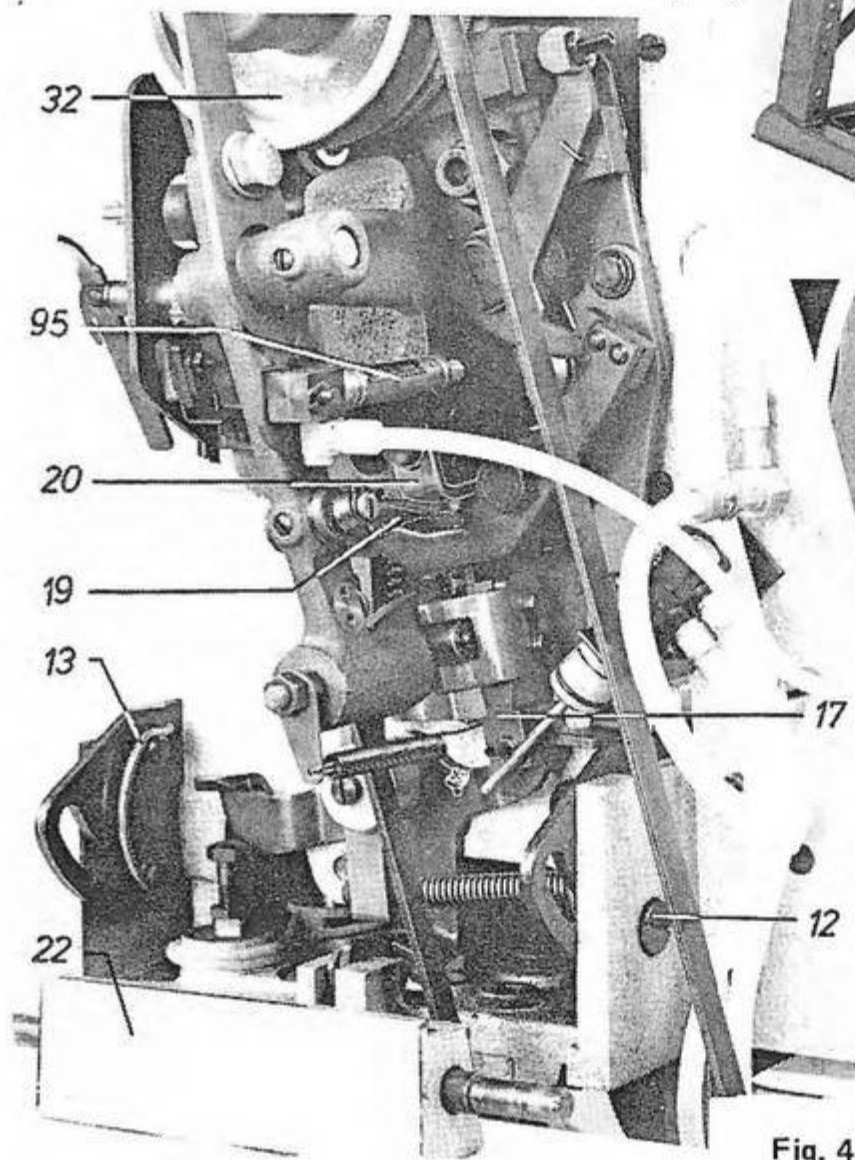
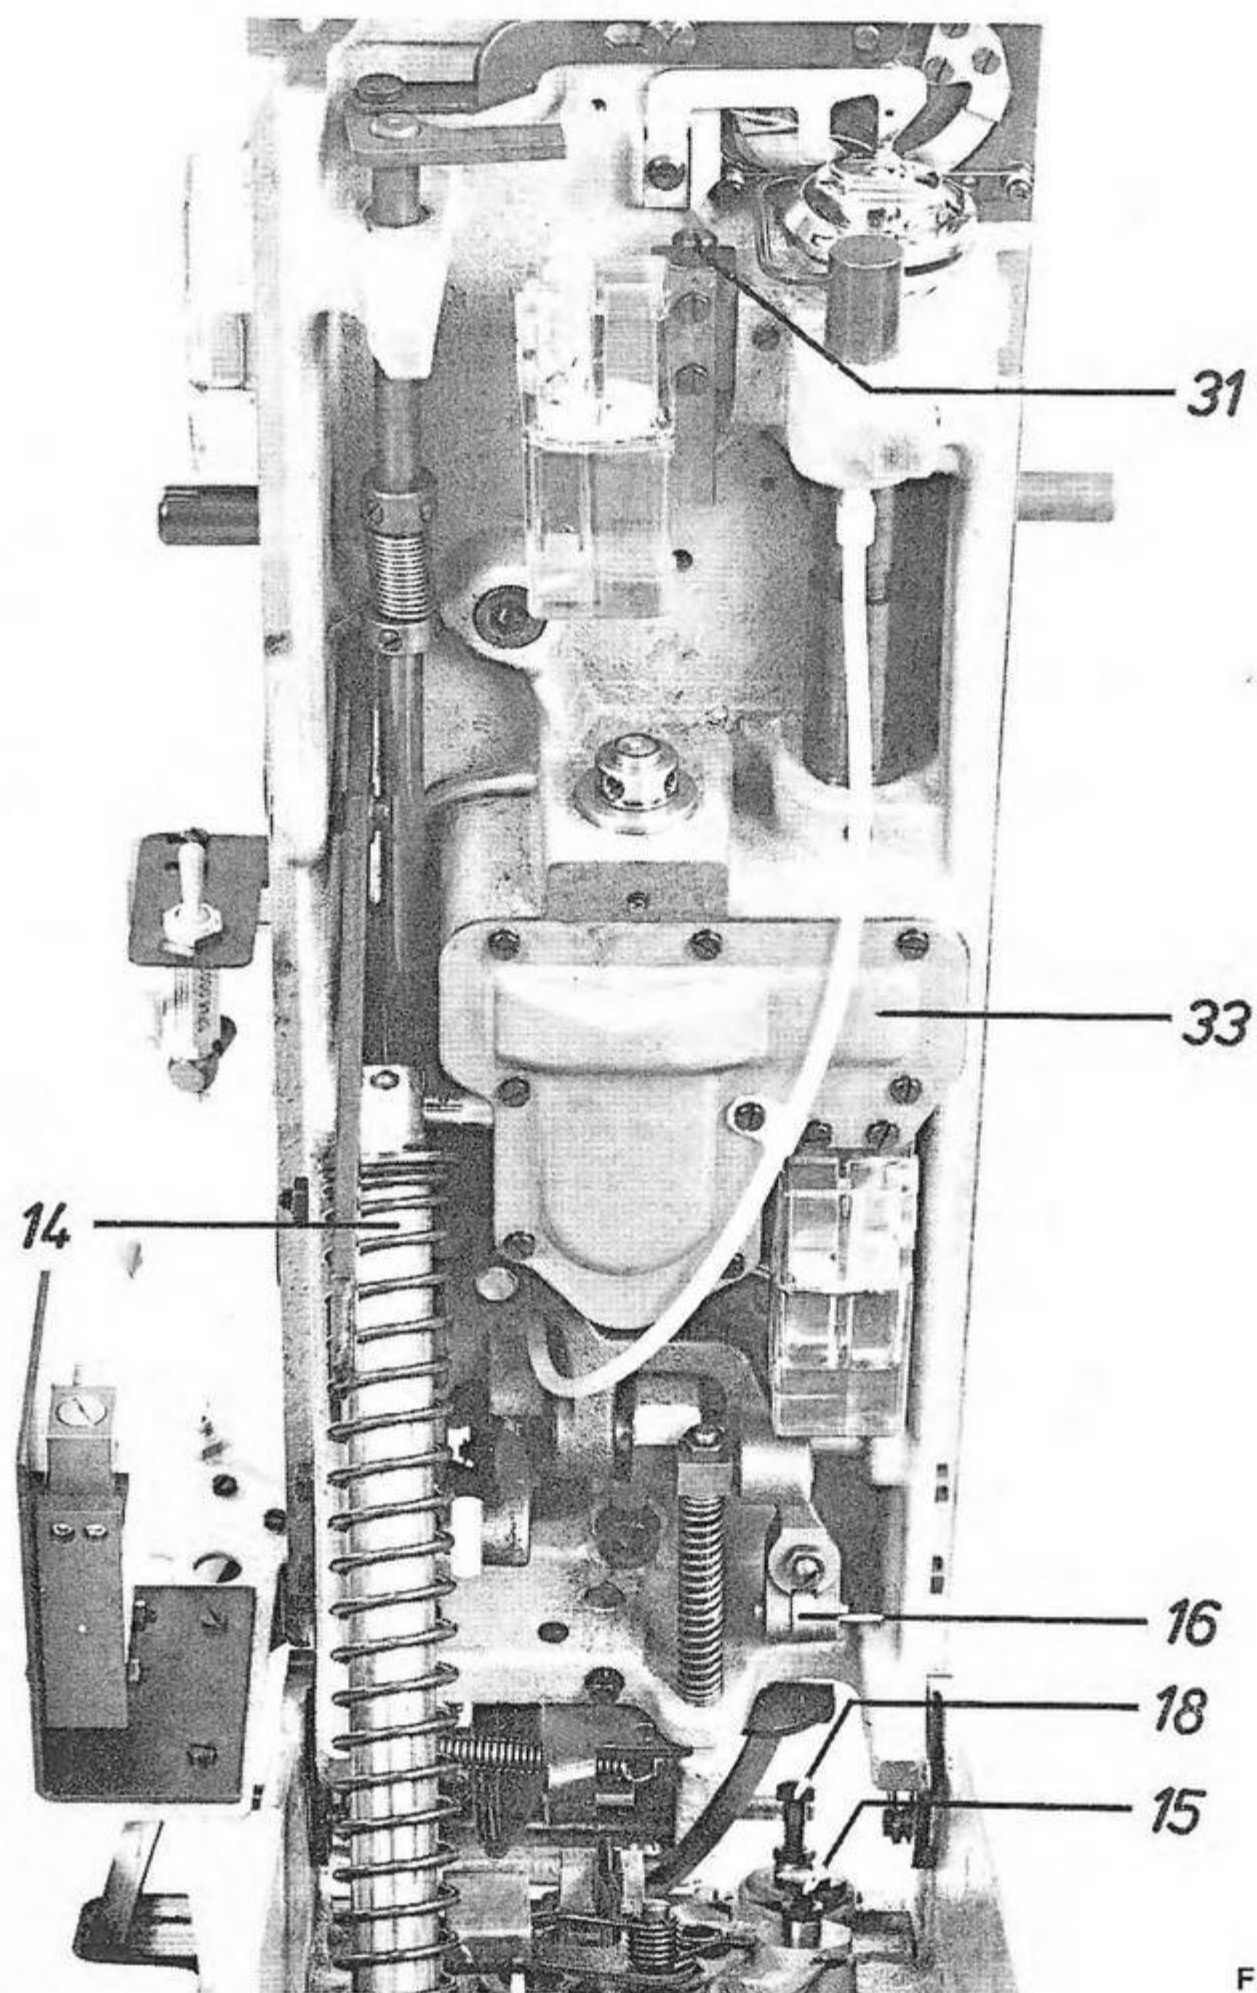
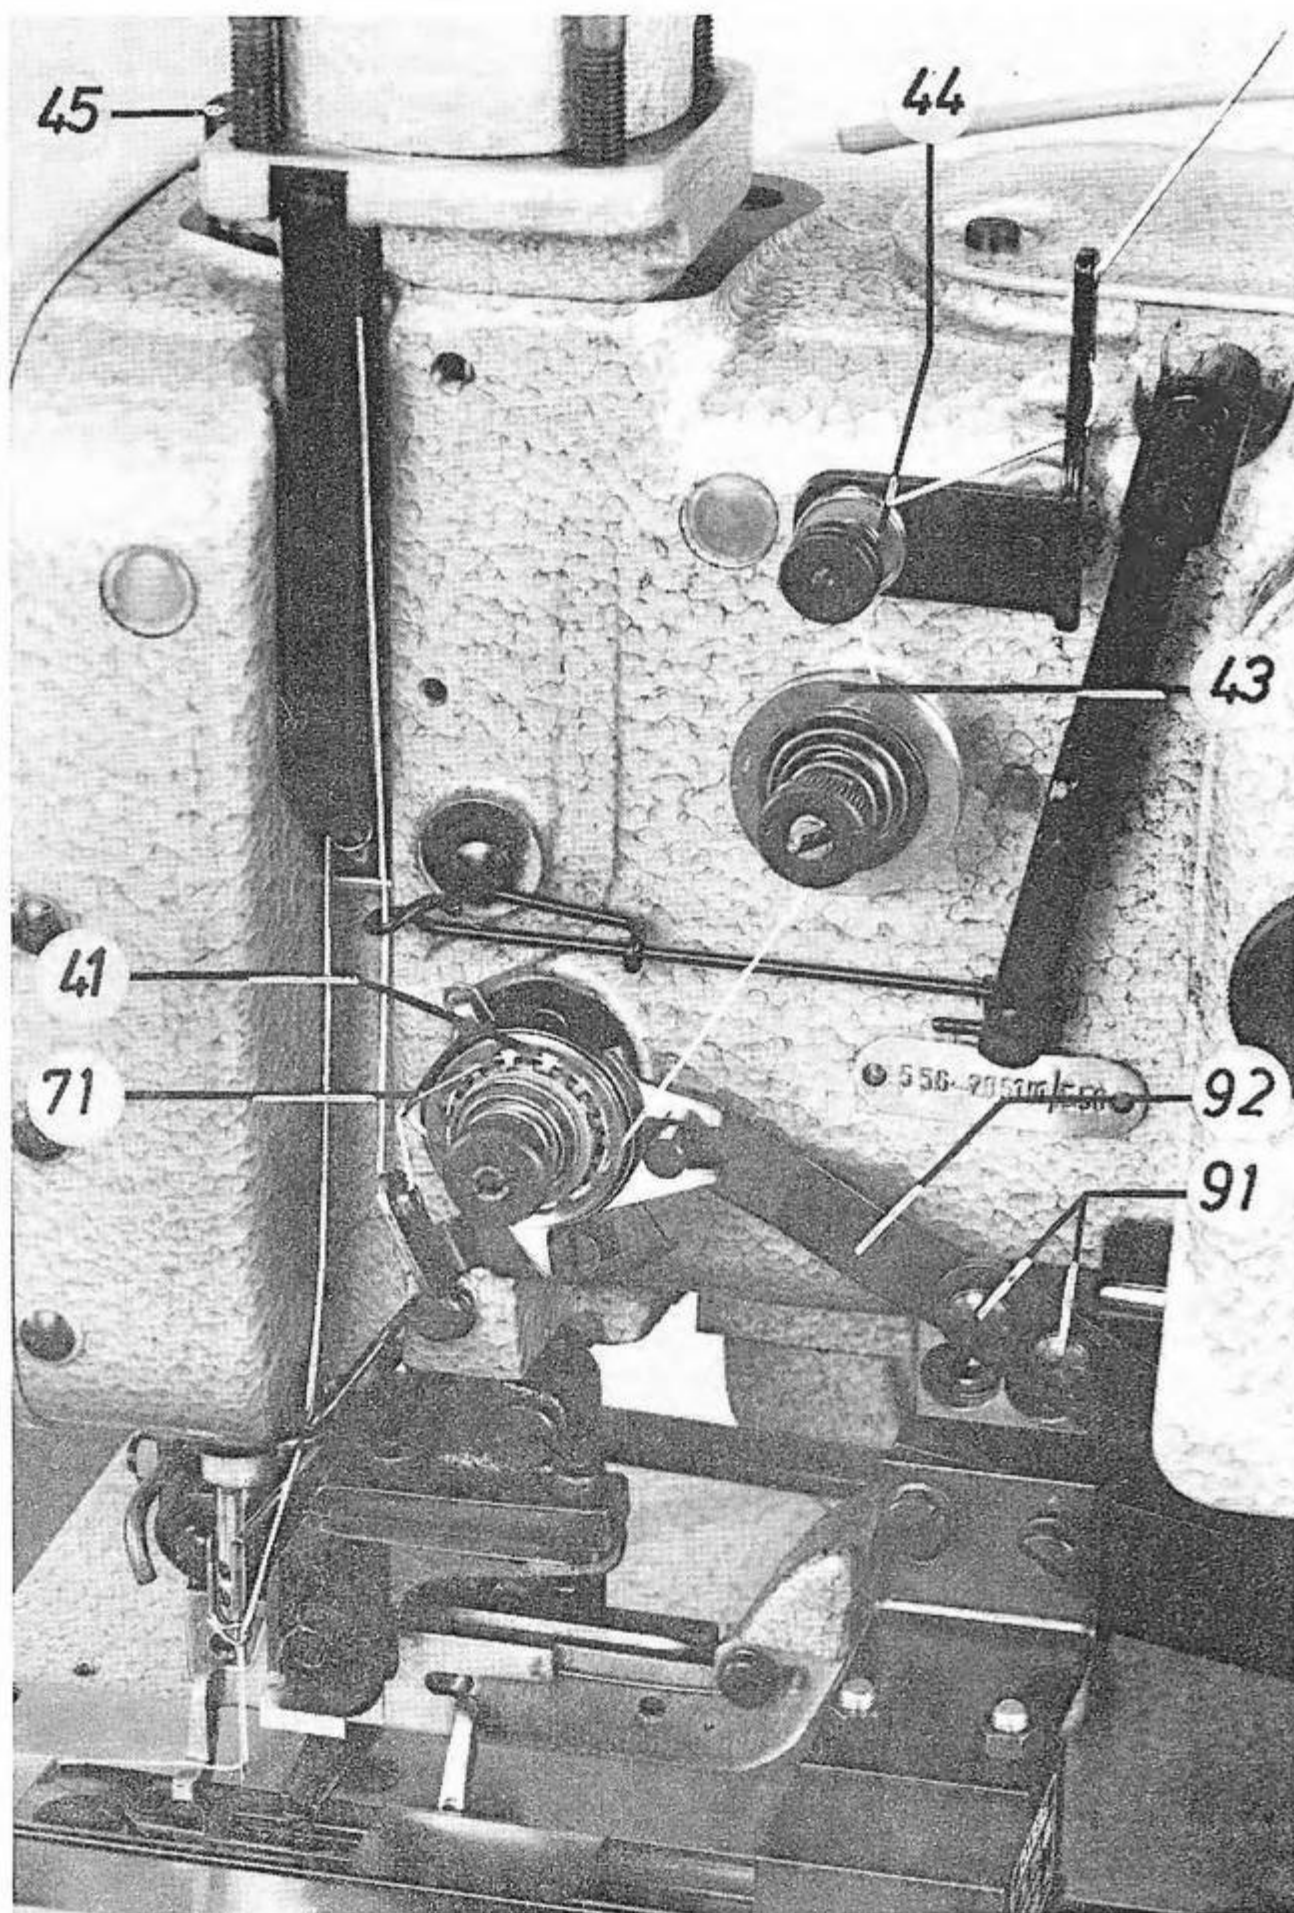

Fig. 4
Fig. 5
Fig. 7
14. Place machine head in the base and secure by safety screws 12 (fig. 4) and safety springs 13.
16. Set the lifter 15 (fig. 5) so that the gap between the roller 16 and the non-operated lifter 15 amounts to about 0.5 mm.
17. The stroke of the brake tappet 17 (fig. 4) is determined by the engagement tappet 18 (fig. 5). With the main switch being turned on and with the r/h pedal being fully lowered set the tappet 18 so that the ratchet 19 (fig. 7) is pulled some 0.5 mm below the square 20 and that the machine is engaged.
24. Fasten the bearing block 22 (fig. 4) on the table top so that the cover hood 23 (fig. 11) adapts itself to the machine head.
The oil supply to the hook can be regulated by the screw 31 (fig. 5).
Furthermore, after about one-year service, wash the needle and the ball bearing of the belt pulley 32 (fig. 4) and fill fresh grease. For washing the bearings use washing petrol with 5% oil addition or acid-free petrol.
The housing and the hook driving gears should be washed after about one-year service and should be replenished with fresh grease. Gauge the filling by means of the trough in the housing cover 33 (fig. 5).
Pass the thread from the thread unwinder upwards through the guide on the thread unwinder arm. Pass it then as shown in fig. 7. Pass the thread completely around the tension wheel 41.
With the clamp 43 (fig. 7) being opened, the tension values should range between 50 and 70 g, adjustable by turning the knurled nut on the tension axle.
Tighten the screw sleeve 45 (fig. 7) for increasing the pressure and loosen it for reducing the pressure.